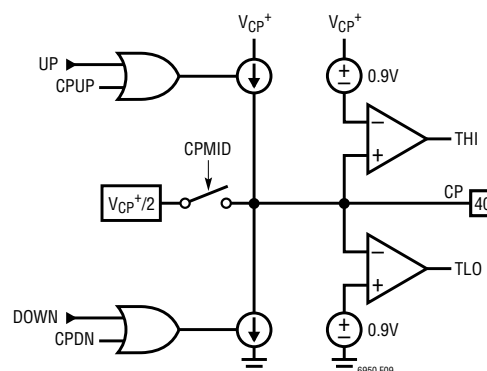

Figure 9. Simplified Charge Pump Schematic
The charge pump, controlled by the PFD, forces sink (DOWN) or source (UP) current pulses onto the CP pin, which should be connected to an appropriate loop filter. See Figure 9 for a simplified schematic of the charge pump.
The CPCHI and CPCLO bits found in register h06 enable the high and low voltage clamps, respectively. When CPCHI is enabled and the CP pin voltage exceeds approximately $V_{CP}^{+} - 0.9V$, the THI status flag is set, and the charge pump sourcing current is disabled. Alternatively, when CPCLO is enabled and the CP pin voltage is less than 0.9V, the TLO status flag is set, and the charge pump sinking current is disabled (see Figure 9).